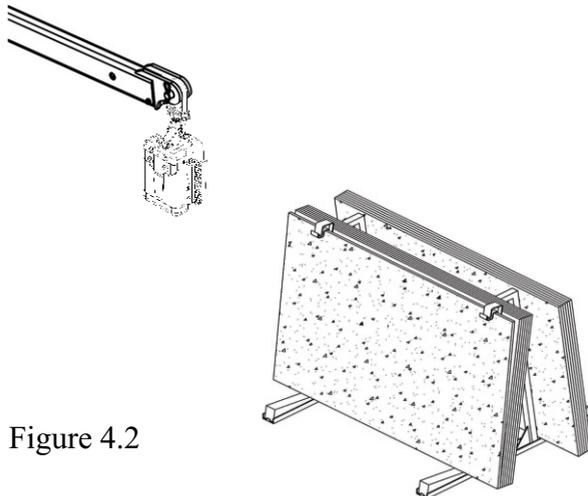

Figure 4.2
- Move the stone slab to the desired position. After that, lower the stone slab gently until the locking latch lock the lifting. Try to keep the clamp always in the open situation. Then move the lifter away from the slab (Figure 4.2).